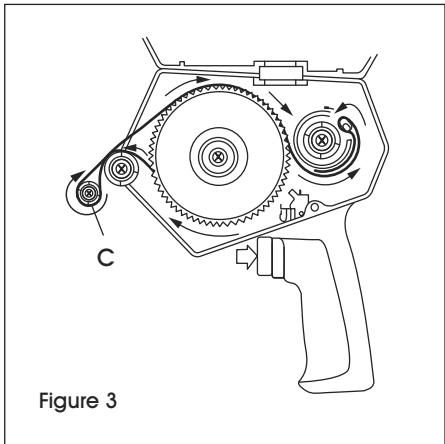

Figure 3
3. Press and hold trigger while threading tape leader/liner as shown. Stop end of leader at point (C). (See Figure 3)